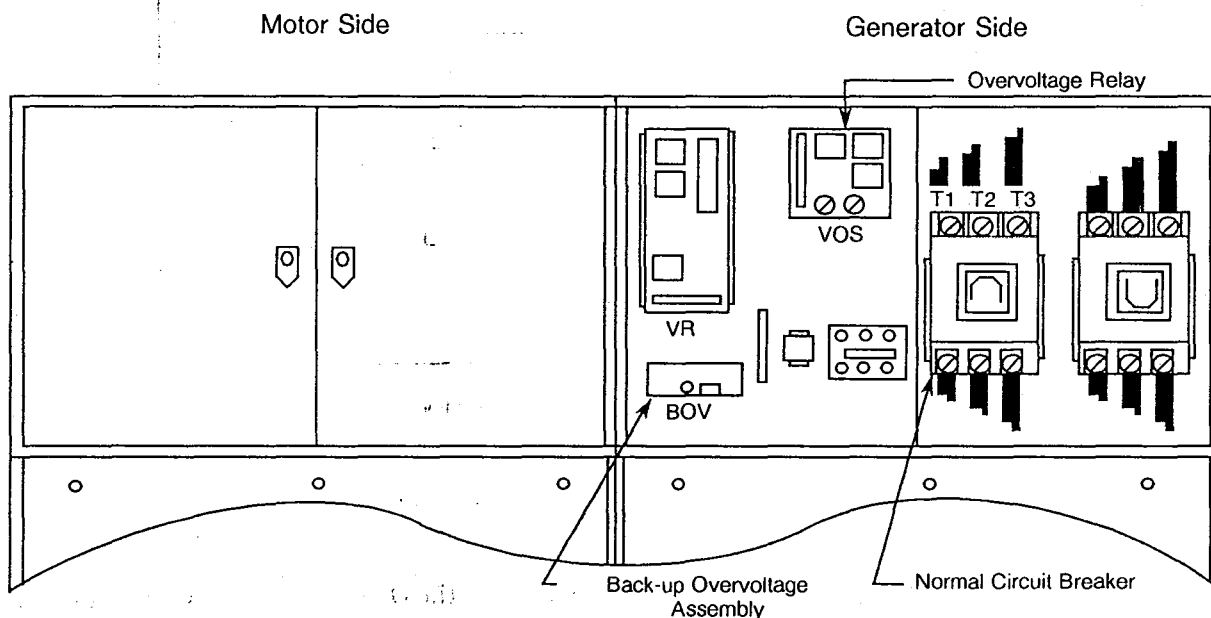

Figure 5-7. MG Cabinet (Internal View)
3. Take a voltage reading of the NORMAL circuit breaker with the digital voltmeter across wires T1 and T2 (refer to Figure 5-7).